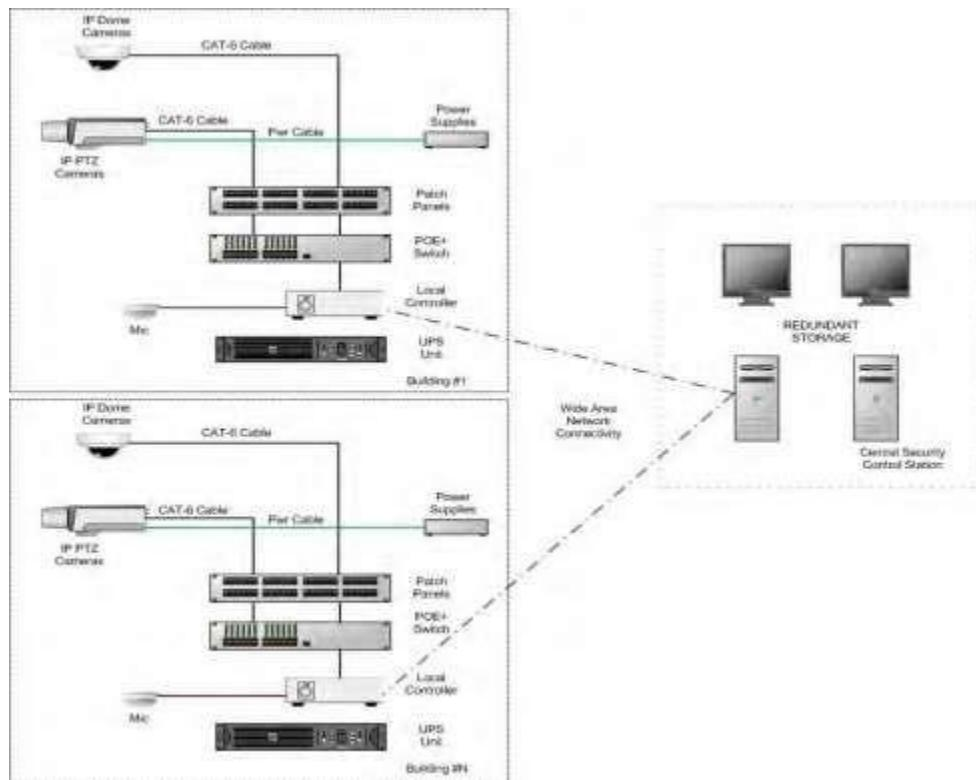

Figure 1 – Typical Owner-Wide IP CCTV System
- C. Provide IP System as shown in Figure 1 above.